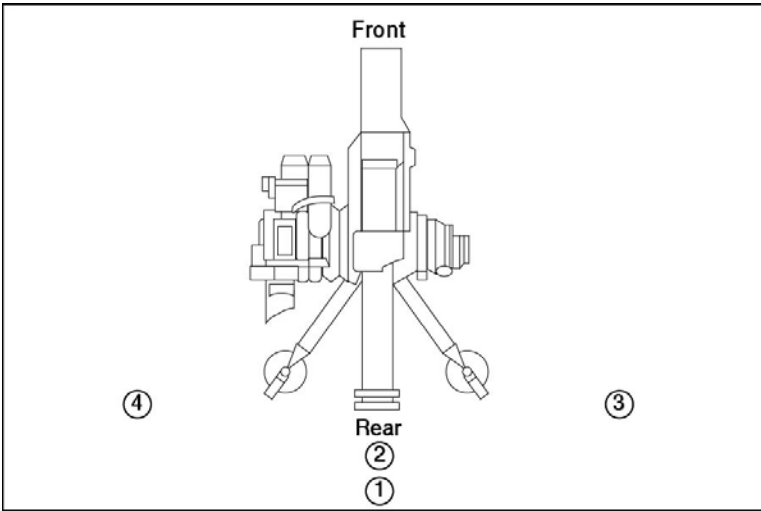

Figure 2-7-2: Detachment Drill Rear
19. **Detachment Rear.** On the command, DETACHMENT REAR (see Figure 2-7-2):